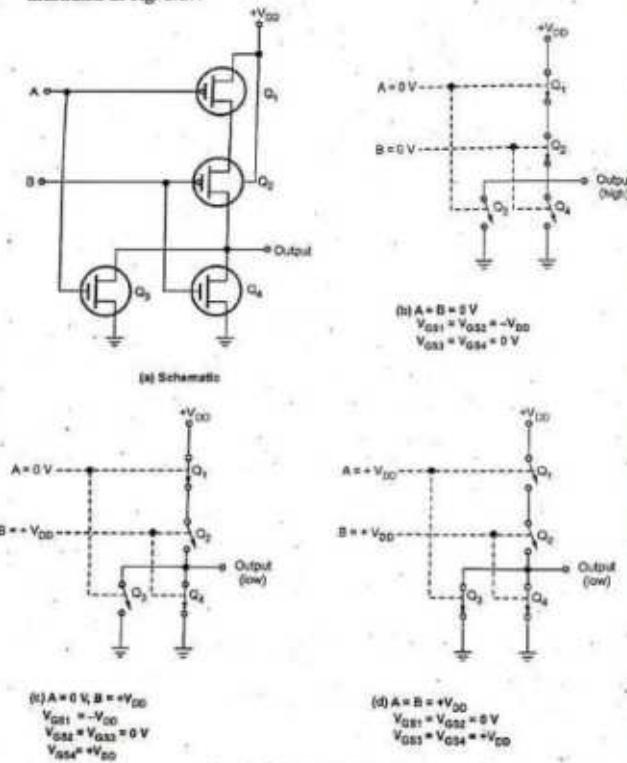

Fig. 3.4.7 CMOS NOR gate
- Fig. 3.4.7 shows 2-input CMOS NOR gate. Here, P-channel MOSFETs  $Q_1$  and  $Q_2$  are connected in series and N-channel MOSFETs  $Q_3$  and  $Q_4$  are connected in parallel.
- Like NAND circuit, this circuit can be analyzed by realizing that a LOW at any input turns ON its corresponding P-channel MOSFET and turns OFF its corresponding N-channel MOSFET, and vice versa for a HIGH input. This is illustrated in Fig. 3.4.7.